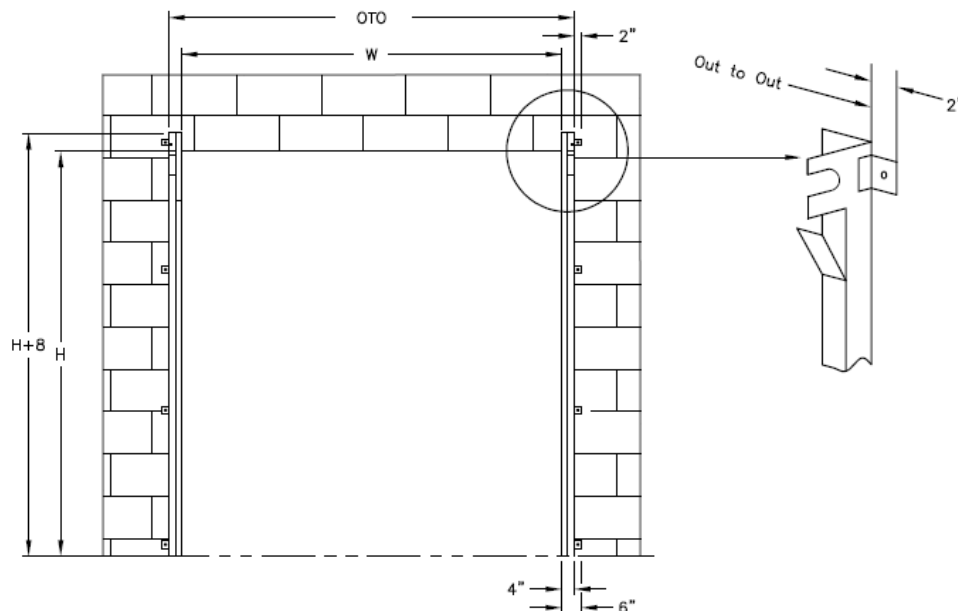

FIGURE 1
3. Mark the center of the door opening. Measure ½ of the OTO (See front page) from the center line and mark the wall on both sides. (See Figure 1).
4. Mount the track assemblies to the wall so they are centered over the doorway width and the OTO measurement of the roll mounting brackets are the same as measured in Fig 1. The tracks should be parallel, and level and the tops of the mounting brackets should be level with one another.